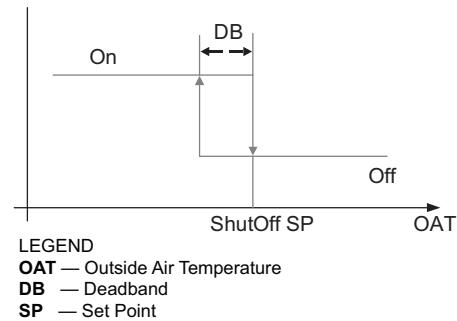

Fig. 76 — Hysteresis Settings
Hysteresis setting (DB) defaults to 2°F (−16.6°C). See Fig. 76.